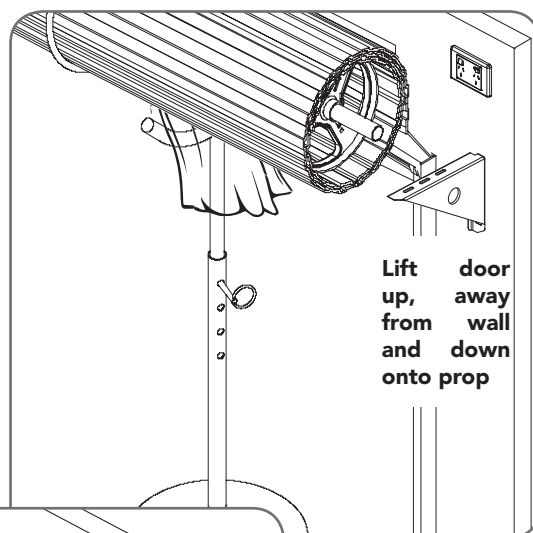

Fig. 6.5.1
- Lift the door up and away from the wall until clear of the door bracket, before lowering the door to rest on the door stand or prop. (**Fig 6.5.1**)